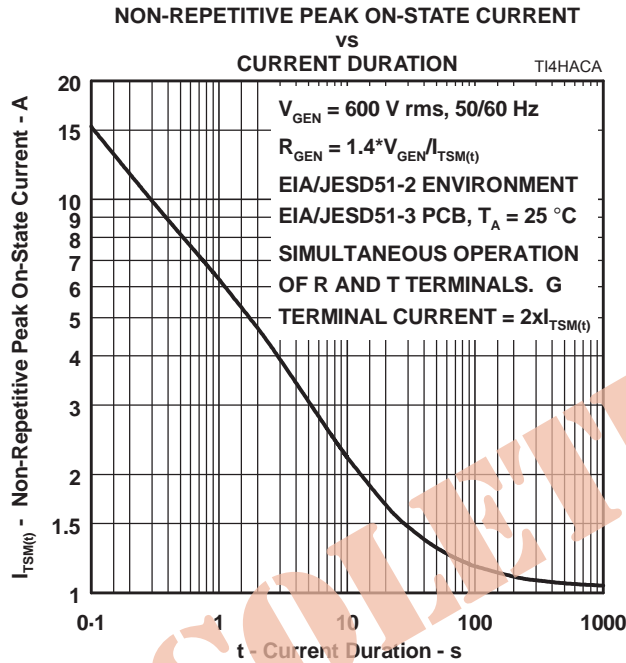

Figure 8.
5. EIA/JESD51-2 environment and EIA/JESD51-3 PCB with standard footprint dimensions connected with 5 A rated printed wiring track widths. See Figure 8 for the current ratings at other durations. Figure 8 shows the R and T terminal current rating for simultaneous operation. In this condition, the G terminal current will be $2 \times I_{\text{TSM}(t)}$, the sum of the R and T terminal currents. Derate current values at -0.61 %/ $^\circ\text{C}$ for ambient temperatures above 25 $^\circ\text{C}$.
The protector can withstand the G return currents applied for times not exceeding those shown in Figure 8. Currents that exceed these times must be terminated or reduced to avoid protector failure. Fuses, PTC (Positive Temperature Coefficient) resistors and fusible resistors are overcurrent protection devices which can be used to reduce the current flow. Protective fuses may range from a few hundred milliamperes to one ampere. In some cases, it may be necessary to add some extra series resistance to prevent the fuse opening during impulse testing. The current versus time characteristic of the overcurrent protector must be below the line shown in Figure 8. In some cases, there may be a further time limit imposed by the test standard (e.g. UL 1459 wiring simulator failure).